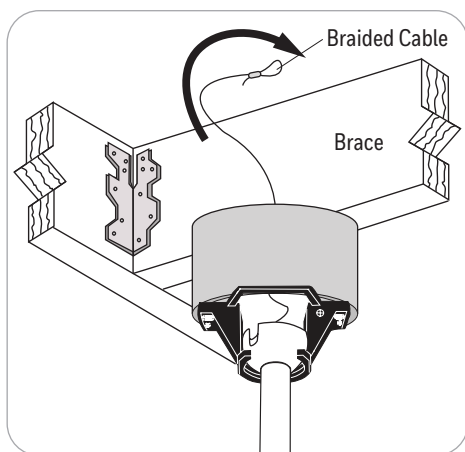

Figure 4.1
1. Feed the loop of the braided cable, preassembled to the motor assembly, up through the outlet box mounted in the ceiling (Figure 4.1).